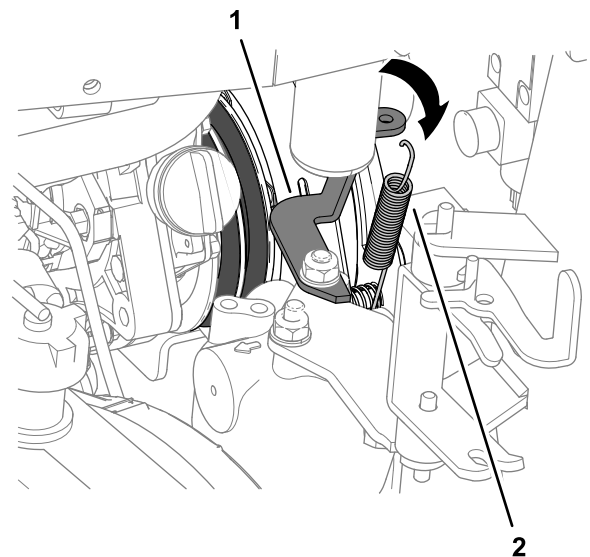

Figure 90
5. At the radiator side, unhook the clutch-damper spring from the spring bracket (Figure 90).
4. Hook the clutch-damper spring between the inboard clutch-plate bolt and the spring bracket; refer to Figure 90 in Removing the PTO Belts (page 66).